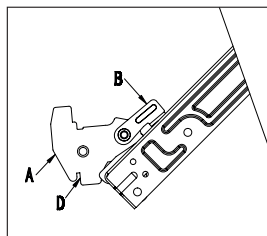

Fig.11-1
- › Open the door completely and lift the 2 levers "B" (fig.11-1).